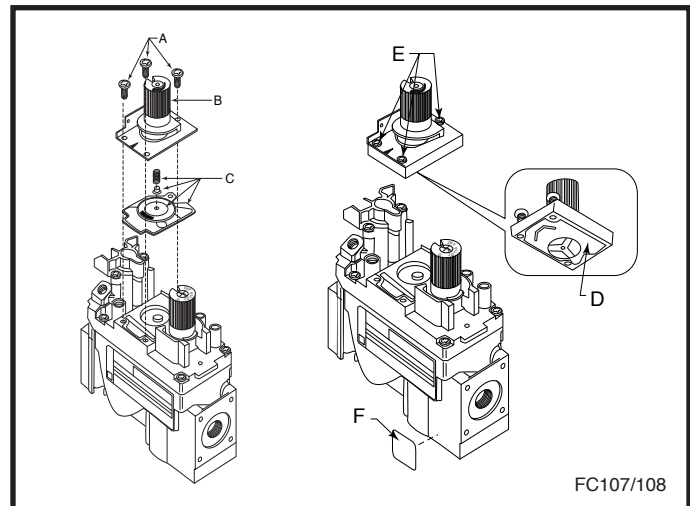

Fig. 52 Nova SIT820 Gas Valve.
9. SIT 820 NOVA Gas Control Valve (Fig. 52)
- a. Using a Torx T20 or slotted screwdriver, remove and save the three pressure regulator mounting screws (A), pressure regulator tower (B) and diaphragm (C).
- b. Ensure the rubber gasket (D) is properly positioned and install the new HI/LO pressure regulator to the valve using the new screws (E) supplied with the kit. Tighten screws securely. (Reference torque - 25 in.LB)
- c. Install the enclosed identification label (F) to the valve body where it can be easily seen.